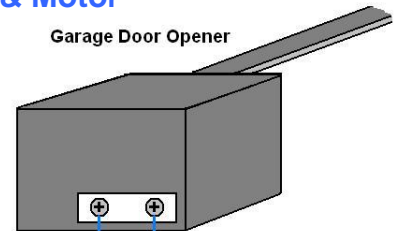

Figure 1
- Connect one end of one of the Extension Wire's leads into I/O Linc's GND terminal (see Figure 1)
- Using wire nuts, butt connectors or electrical tape (not included), connect other end of extension wire to black and green sensor leads as shown in Figure 1
- Connect other end of Extension Wire to garage door motor's control terminals (without removing existing wires) as shown in Figure 1